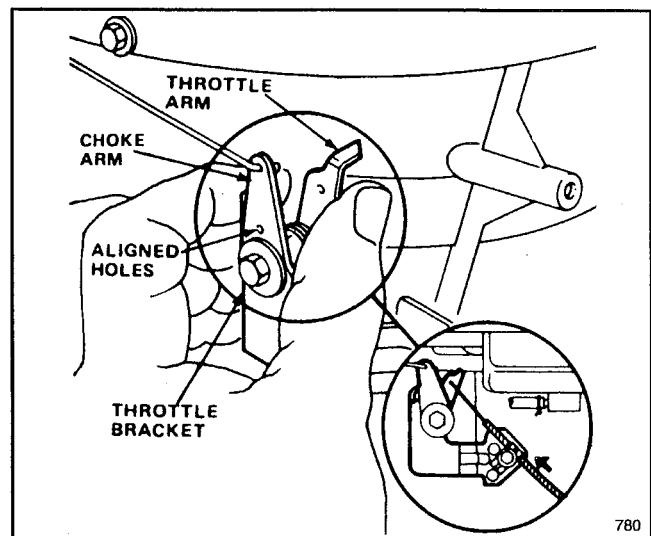

Figure 21
3. Loosen cable clamp screw until throttle cable slides (Fig. 21). Align holes in choke arm and throttle bracket. A small dia. pin may be inserted into aligned holes to hold adjustment. Push throttle cable until throttle arm makes contact with choke arm. Tighten cable clamp. Remove pin if used.